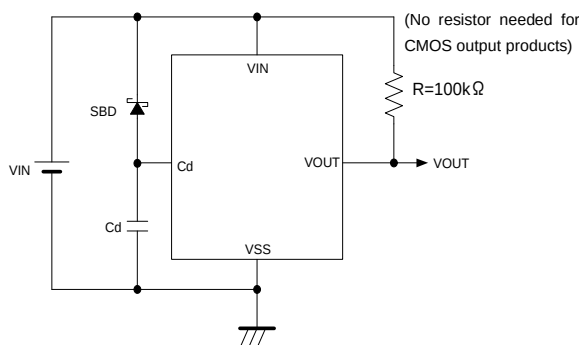

Figure 3: Circuit example with the delay capacitance pin ( $C_d$ ) connected to a schottky barrier diode
5. When there is a possibility of which the input pin voltage falls rapidly (e.g.: 6.0V to 0V) at release operation with the delay capacitance pin ( $C_d$ ) connected to a capacitor, use a schottky barrier diode connected between the  $V_{IN}$  pin and the  $C_d$  pin as the Figure 3 shown below.